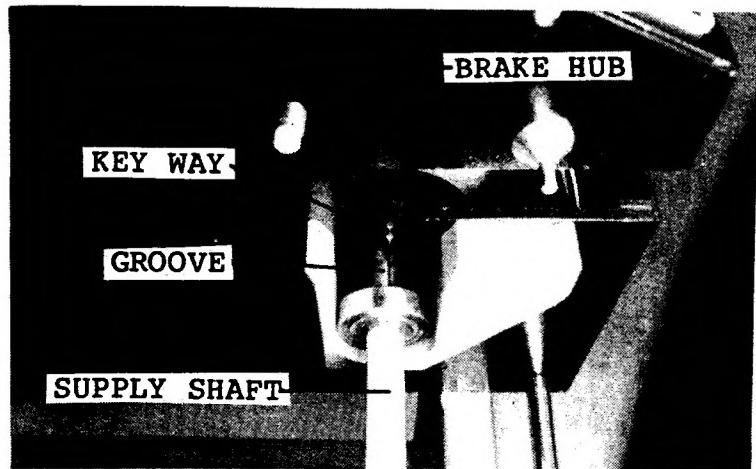

Figure 4.1.2
- 11) Slide both the top and bottom supply shafts towards the right side panel where the film tension knob is located. Grasp the respective film tension control knob and move it so that the brake hub is aligned with the end of the respective supply shaft. Rotate the supply shaft so that the "groove" in its right end aligns with the "key way" in the brake hub. See figure 4.1.2. Slide the brake hub onto the supply shaft as far as possible.